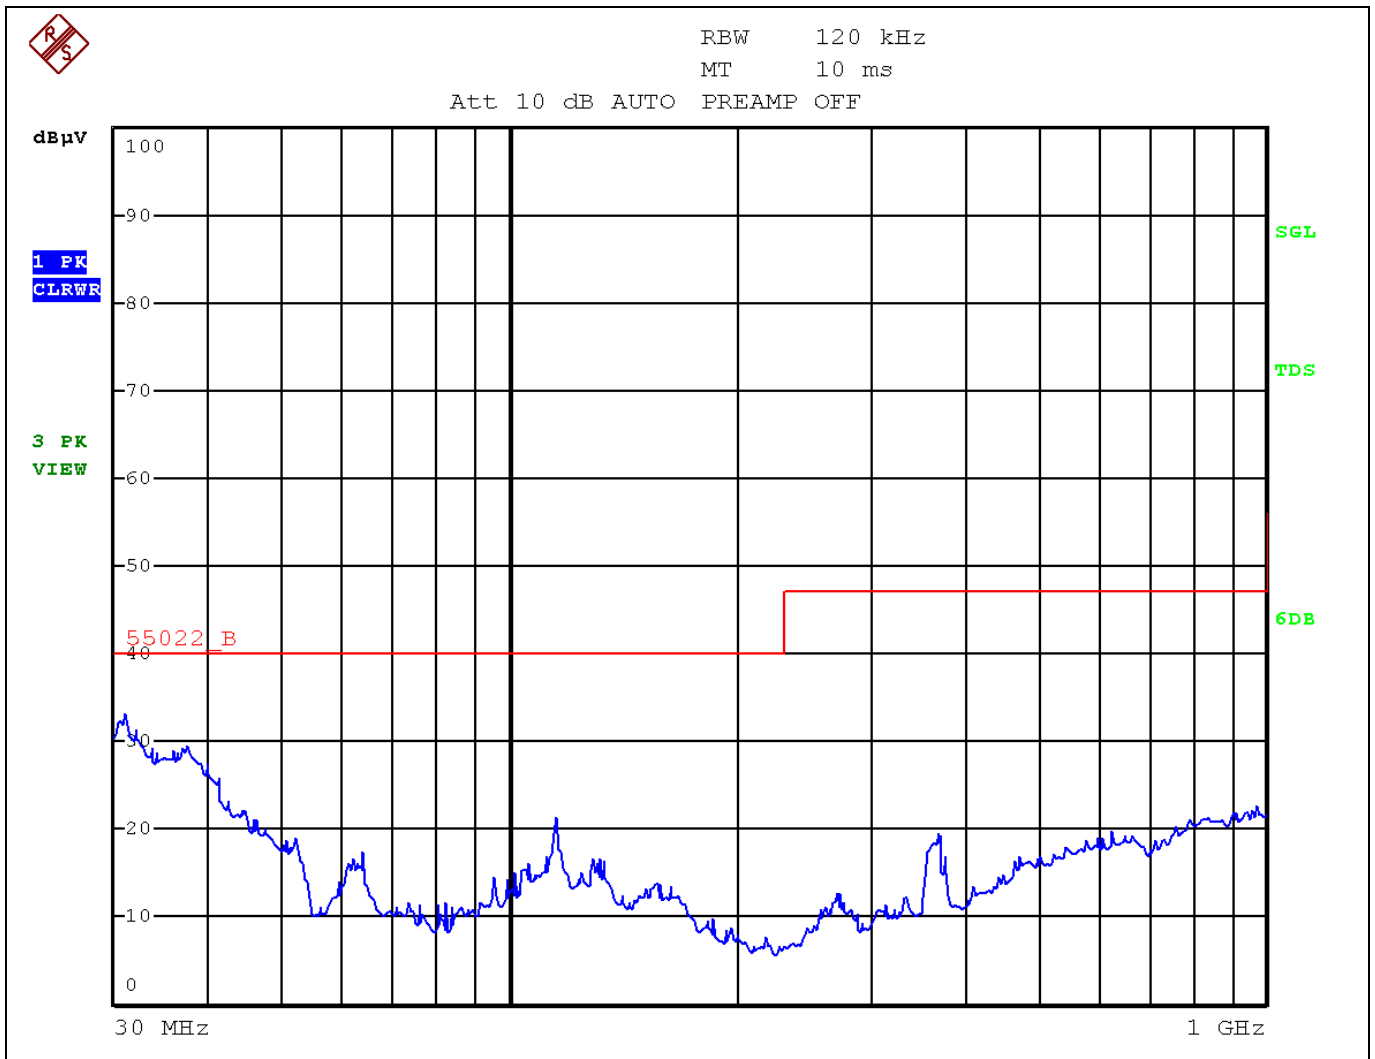

Figure 9 EMI-radiated results for EVK with ferrite filter. Board turned CW 90°. Antenna position is vertical.
- Board was positioned towards the antenna and the antenna was Horizontal (Figure 9)